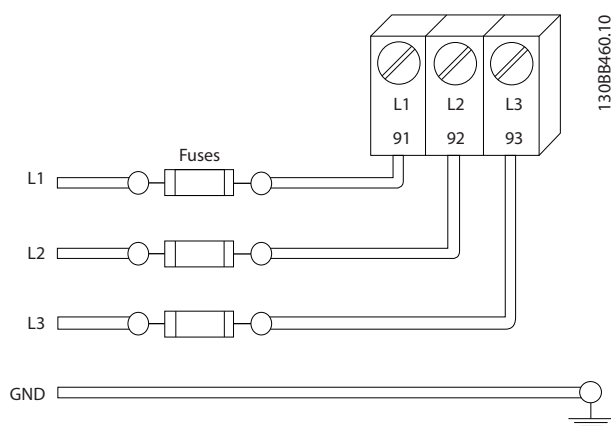

Figure 2.4 Adjustable Frequency Drive Fuses
- All adjustable frequency drives must be provided with short-circuit and overcurrent protection. Input fusing is required to provide this protection, see *Figure 2.4*. If not factory supplied, fuses must be provided by the installer as part of installation. See maximum fuse ratings in *10.3.1 Protection*.